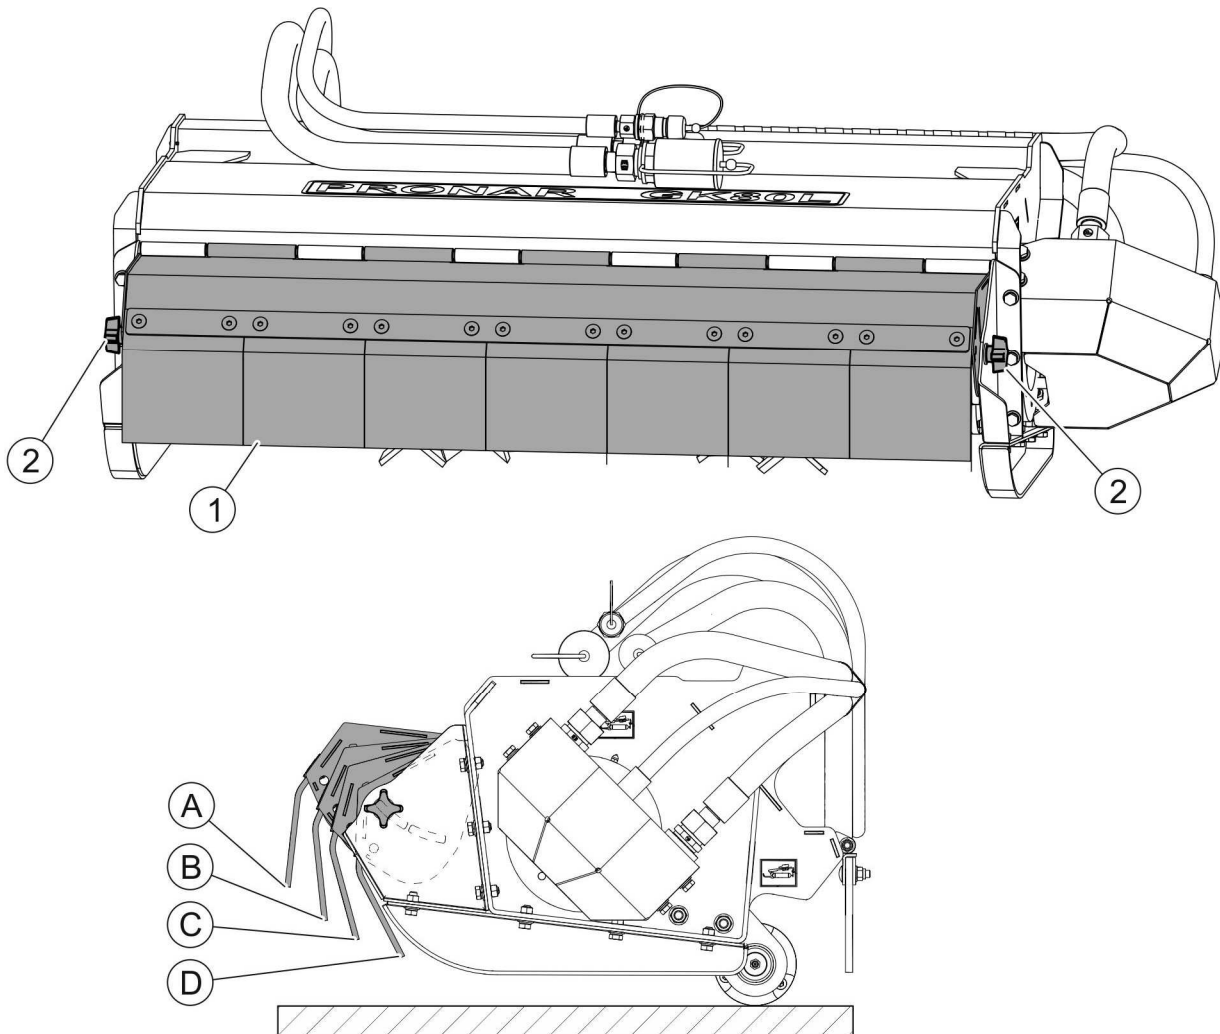

FIGURE 4.5 Adjust cutting height of the mowing head.
When changing the cutting height, the front guard tilt should be also changed (1) (FIGURE 4.5).
(1)- front guard; (2)- star knobs; (A),(B),(C),(D)- front guard tilt positions.
Always set the front guard in such a manner so that the cut material could enter under the guard and be prevented from ejecting outside the guard. In order to adjust the front guard tilt, loosen star knobs (2) on both sides of the front guard and then, change the guard tilt (1) so as to achieve the optimum distance between rubber elements of the guard and the ground (FIGURE 4.5). When a required guard tilt is set, secure the guard by tightening star knobs (2).